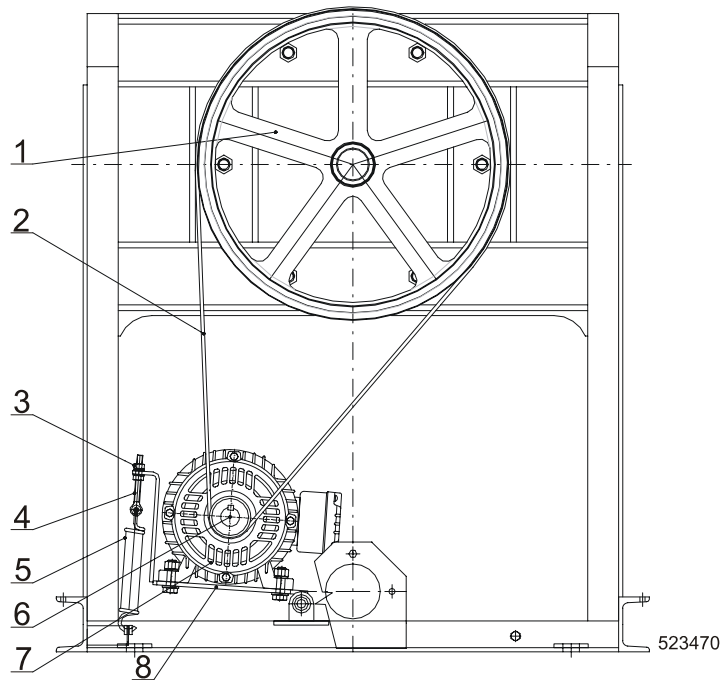

Fig.5.8.D. V-belt, applicable for 27 kg / 60 lb
- Loosen the nut, fig.5.8.D., pos.3 on the tightening bolt with eye (4) which secure position of the motor board (8).
- Lift up the motor board (8) together with motor (7) by means of assembly lever. This way you decrease tension of belts (2) and you can remove them easily.
- Take care that the spring (5) is fixed in the frame and in the bolt eye (4).
- Installation is done in reverse order. The motor pulley (6) and the drum pulley (1) must be in the same level.
- Tighten the belts (2) by tightening the nut (3) on the tensioning bolt with eye (4).